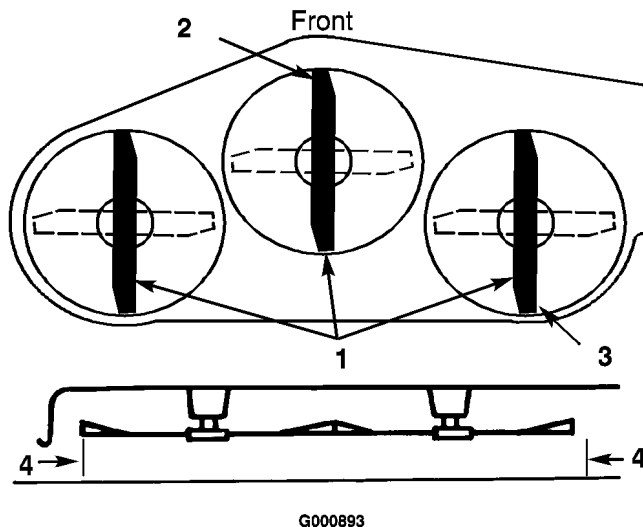

Figure 45
- Set the height-of-cut at 3 inch (76 mm) and carefully rotate the blades so they are facing front to rear (Figure 45).
- Measure between the tip of the front blade (Figure 45) and the tip of the rear blade to the flat surface. If the front blade tip is not 1/16-5/16 inch (1.6-7.9 mm) lower than the rear blade tip, adjust the front trunion rods.
- After adjusting both trunion rod yokes evenly, secure the yokes with the hairpin cotten. Check the front-to-rear level again. Continue adjusting the yokes until the front blade tip is 1/16-5/16 inch (1.6-7.9 mm) lower than the rear blade tip (Figure 45).